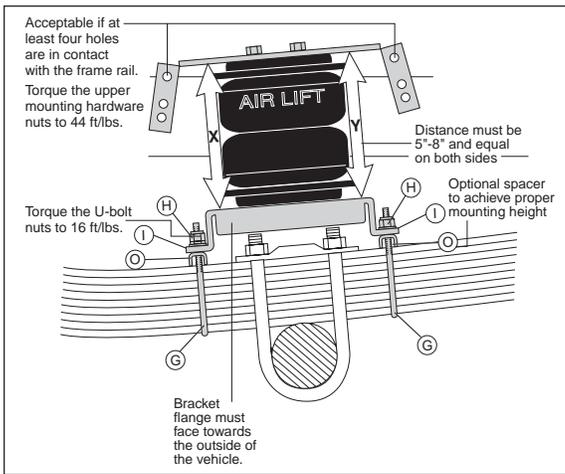

Figure 7
1. The air spring must be installed between 5" and 8" from both the upper bracket to the lower bracket (Figure 7). It is best to position the upper bracket as high as possible.
NOTE: The top rear mounting hole may be above the frame rail. If this condition exists, use the two lower mounting holes to mount the bracket (Figure 7).
2. Set the air spring assembly on the leaf spring over the axle (Figure 7).
4. In some cases, it may be necessary to use the optional spacers (O) to achieve the 5"-8" space (Figure 7). For example, if only the top two holes contact above the lower radius edge of the frame rail, it may be necessary to up the spacers (O) under the lower bracket to achieve mounting height.
2. If the spacer is used, place the spacers (O) legs down on the leaf spring and attach the lower bracket securely using the provided U-Bolts (G), flat washers (I), and lock nuts (H). Torque to 16 ft/lbs. (Figure 7).